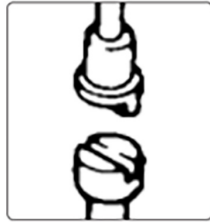

Fig.2
1. Loosen the bolt on handle yoke and insert the handle assembly (1).
2. Rotate the release valve knob to locate the connecting rod into the release valve rod as shown in fig.2.